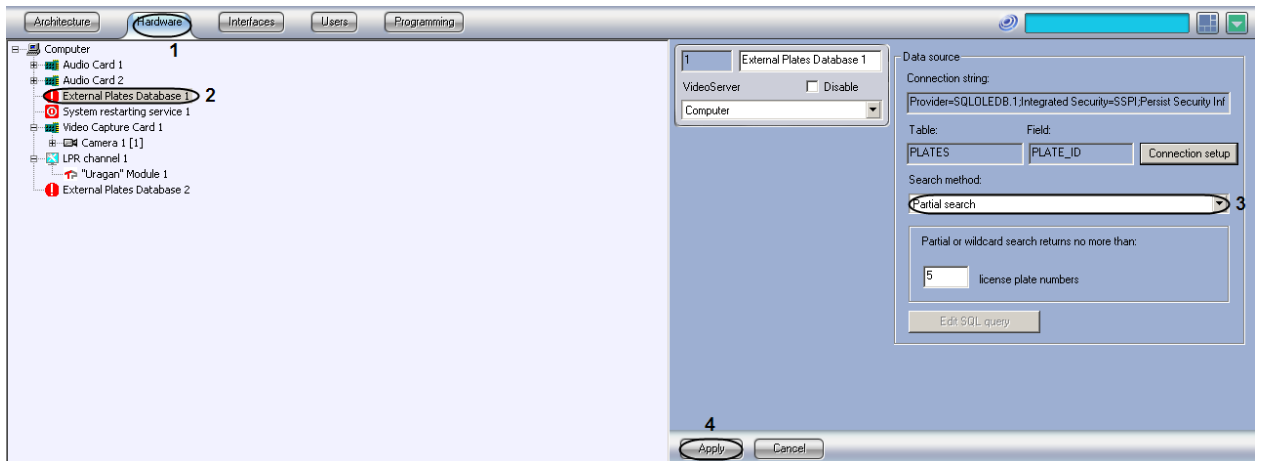

Fig. 7.5-11 Selecting the search method “Partial search” or “Wildcards search”
1. Go to Hardware tab of system settings dialog window (Fig. 7.5-11, 1).
2. Select the External Plates Database in the objects tree (Fig. 7.5-11, 2).
3. Select the value “Partial search” or “Wildcards search” from the list Search method (Fig. 7.5-11, 3).
4. Enter the maximum plates number to be returned while searching via a wildcard or a number’s part in the external DB in the field «Partial or wildcard search returns no more than» (Fig. 7.5-11, 4).
5. Click Apply (Fig. 7.5-11, 5).